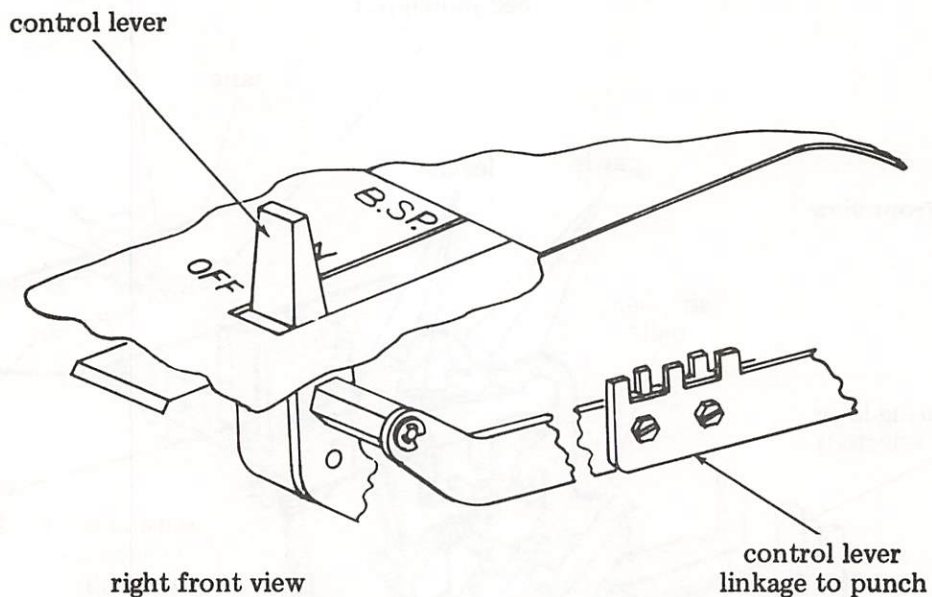

Figure 9 - Tape Punch Control Lever
4.01 The manual tape punch is controlled only by the punch control lever (Figure 9). The controls for manual operation are listed in Table A.
| B.SP. | Primarily used for tape correction. Each time the control lever (Figure 9) is moved to this position, the tape backspaces one full character. |
| ON | The automatic tape punch can be turned on by either moving the control lever (Figure 9) to the ON position, or by the receipt of the DC ₂ ASCII signal from the associated keyboard, or a remote terminal via the signal line. |